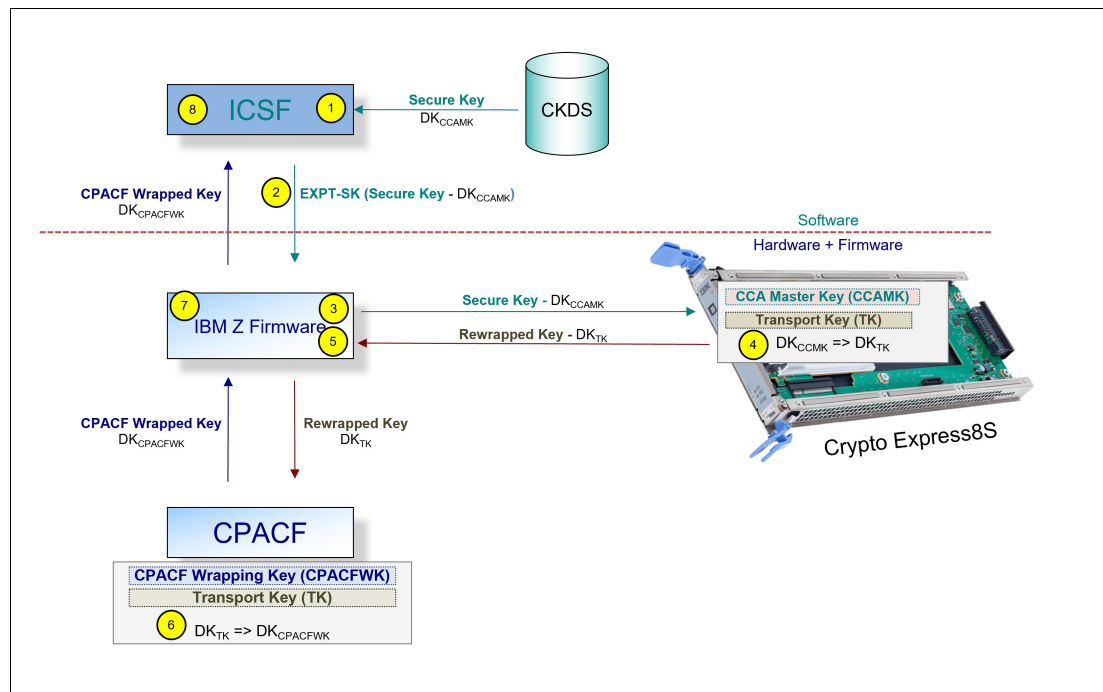

Figure 6-5 CPACF key wrapping for Express8S, Crypto Express7S, and Crypto Express6S
Wrapping keys are generated during the clear reset each time an LPAR is activated or reset. No customizable option is available at Support Element (SE) or Hardware Management Console (HMC) that permits or avoids the wrapping key generation. This function flow for the Crypto Express8S, Crypto Express7S, and Crypto Express6S adapters is shown in Figure 6-5.
A new segment in the profiles of the CSFKEYS class in IBM RACF restricts which secure keys can be used as protected keys. By default, all secure keys are considered not eligible to be used as protected keys. The process that is shown in Figure 6-5 on page 214 considers a secure key as the source of a protected key.